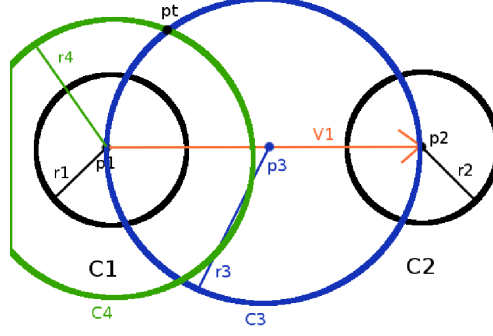

Figure 6: Step 3
3. Construct a circle C_4 centered at C_1 's center, with radius $r_4 = r_1 + r_2$ (Figure 6).